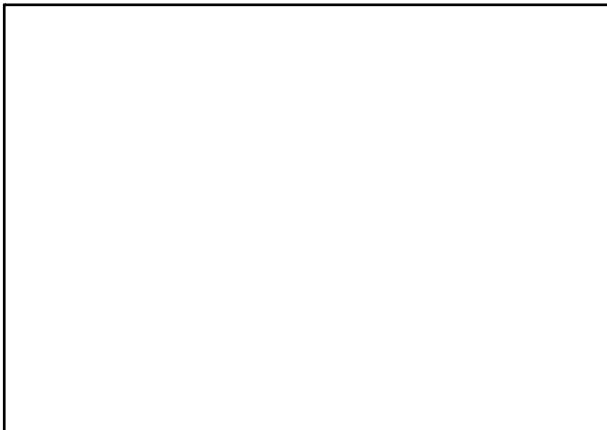

Fig. 2
Push toggle (2, Fig. 2) at plug (3) of lefthand control unit (1) outwards (arrow). The plug (3) is lifted out and can be removed.